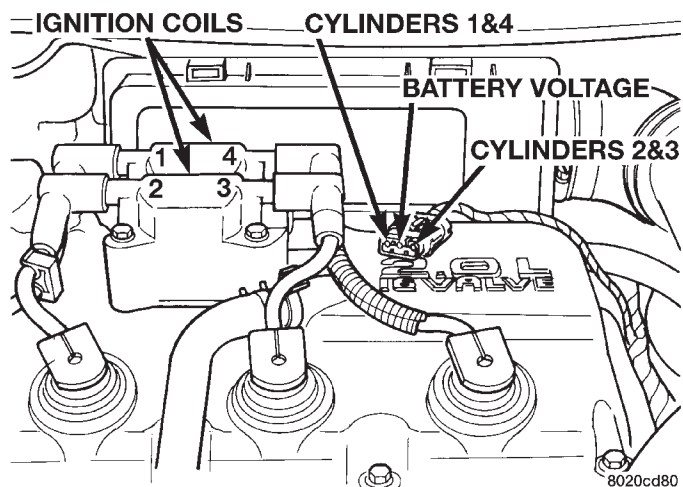

Fig. 26 Ignition Coil Engine Harness Connector
(1) Check battery voltage. Voltage should approximately 12.66 volts or higher to perform failure to start test.
(2) Disconnect the harness connector from the coil pack (Fig. 26).
(3) Connect a test light to the B+ (battery voltage) terminal of the coil electrical connector and ground. The B+ wire for the DIS coil is the center terminal. **Do not spread the terminal with the test light probe.**